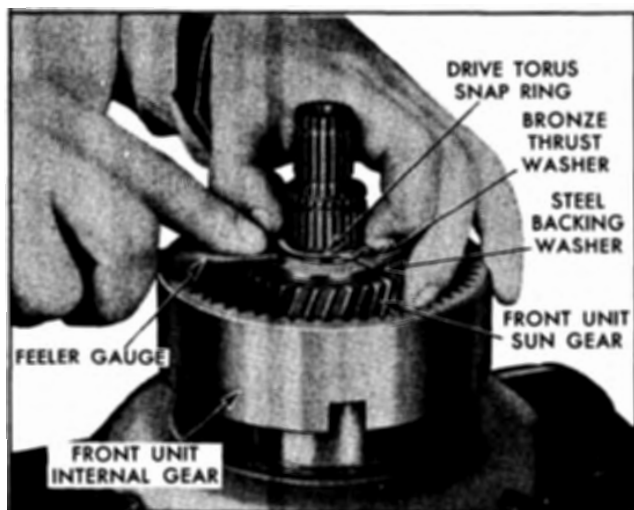

Fig. 7D-165 Measuring Front Unit End Clearance
rear of transmission (Fig. 7D-165) to make sure all end play is taken up.
9. Push snap ring down against rear of groove and very carefully measure clearance between snap ring and bronze thrust washer using a set of feeler gauges (Fig. 7D-165). **CAUTION: The feeler gauge must be flat against the thrust washer to obtain an accurate reading.**